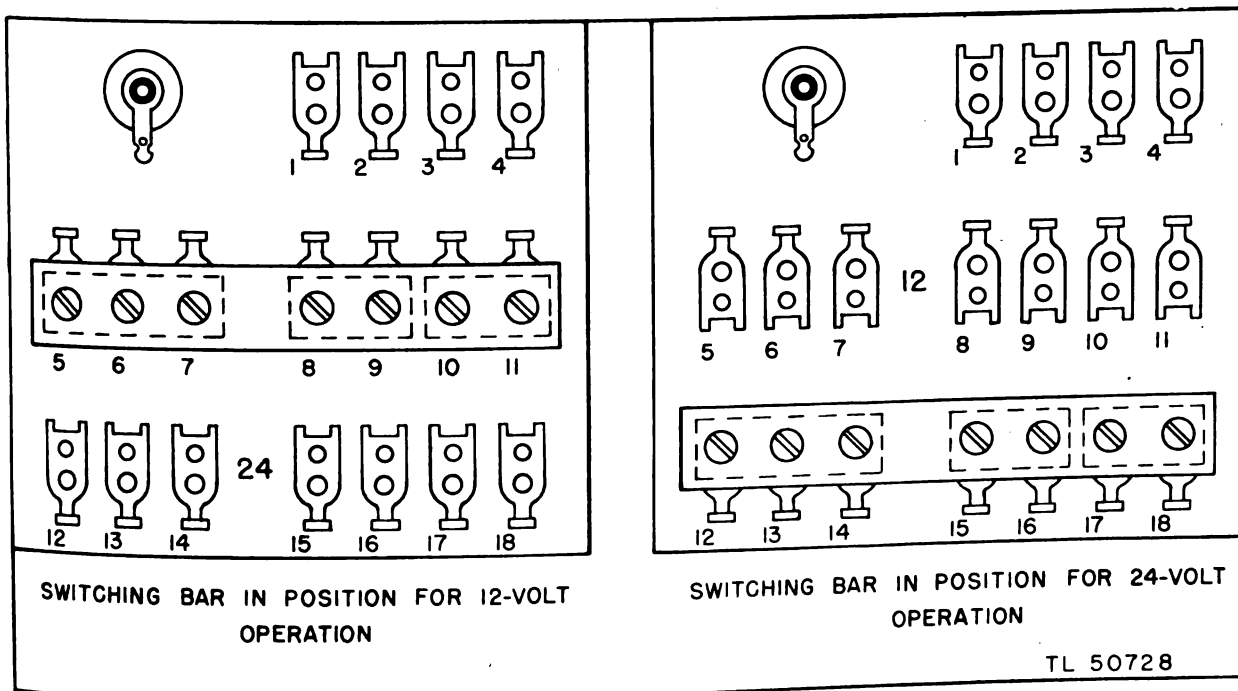

Figure 9. Switching panel diagram, Voltage Converter PP-50/VVX-1X.
c. For 12-volt d-c operation of Voltage Converter PP-50/VVX-1X (fig. 9), the switching plate must cover the position marked 12. For 24-volt d-c operation, the switching plate must cover the position marked 24.